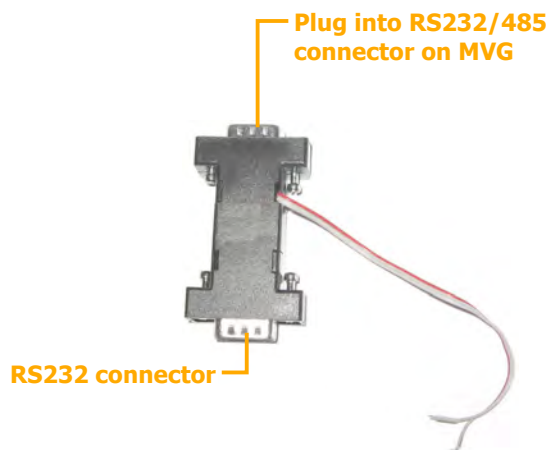

Figure 22: RS232/485 adapter
- If you are also connecting one or more RS485 PTZ controllers to the unit, connect the RS232 connector of the touch output cable to the RS232 connector of the RS232/485 adapter supplied with the unit (see figure 22 below). Connect the PTZ controllers to the adaptor as explained under *Connecting PTZ Controllers*, page 17. Then plug the adaptor into the **RS232/485** connector on the unit.